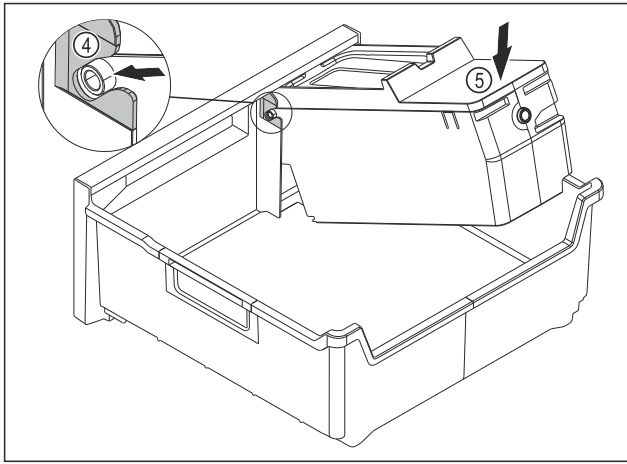

Fig. 116
- Installing the EasyTwist-Ice body: Push the axes for the EasyTwist-Ice body into the guides Fig. 116 (4).
- Press the EasyTwist-Ice body Fig. 116 (5) down at the back.